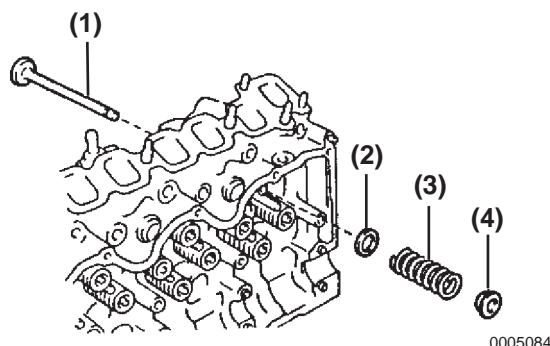

Figure 5-57
2. Install the following parts as shown in **Figure 5-57**.